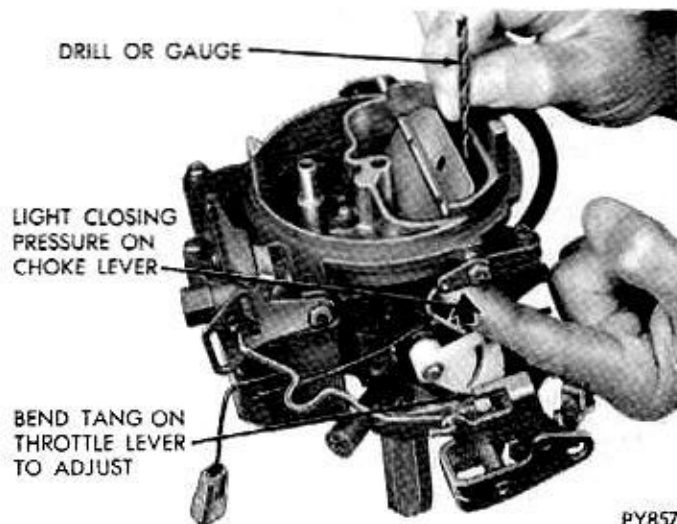

Fig. 23—Choke Unloader Adjustment (Wide Open Kick)
- (1) Hold throttle valves in wide open position. Insert specified drill (see Specifications) between upper edge of choke valve and inner wall of air horn. (Fig. 23).
- (2) With a finger slightly pressing against shaft lever, a slight drag should be felt as drill is being withdrawn. If an adjustment is necessary, bend unloader tang on throttle lever until correct opening has been obtained. (Fig. 23). Use Tool T109-213.